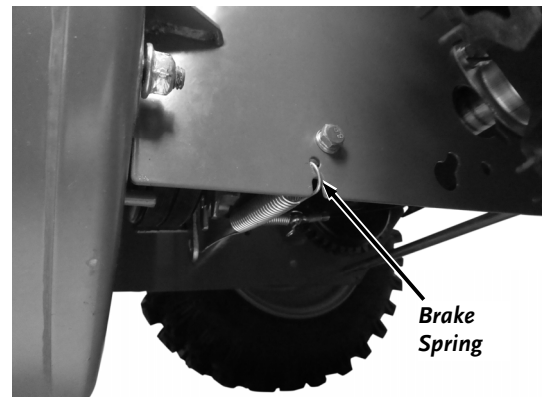

Figure 48
4. Remove the Brake Spring from Frame so the Brake Pad will come away from the Auger pulley, making room for Belt removal (**Figure 48**).
14. Install the Brake Spring to the Frame (**Figure 48**).